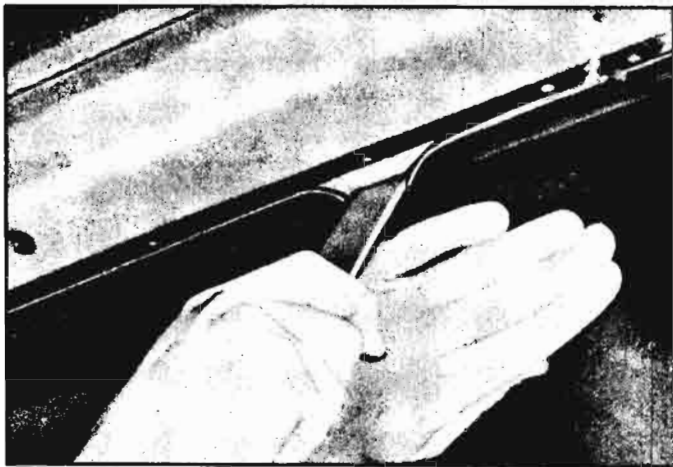

Fig. 10-32—Removing Windshield Rubber Channel from Flange
4. On inside of body loosen lip of rubber channel from pinchweld flange along top and sides of windshield by applying pressure with palm of hand to glass near edge as shown in Figure 10-32. At the same time use a blunt putty knife or other suitable